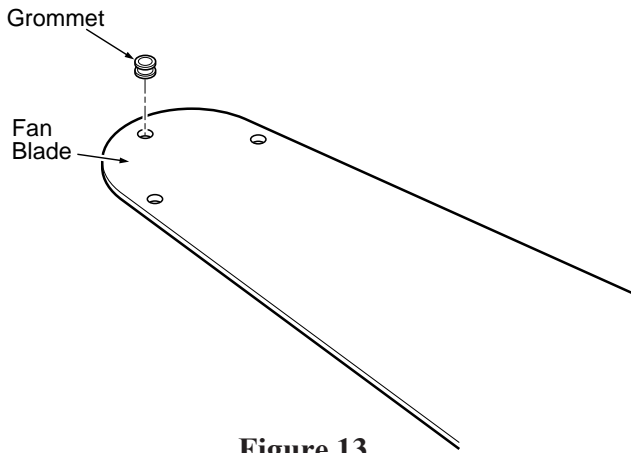

Figure 13
2. If your blades have large holes, you must first insert the rubber grommets into the holes. See Figure 13.